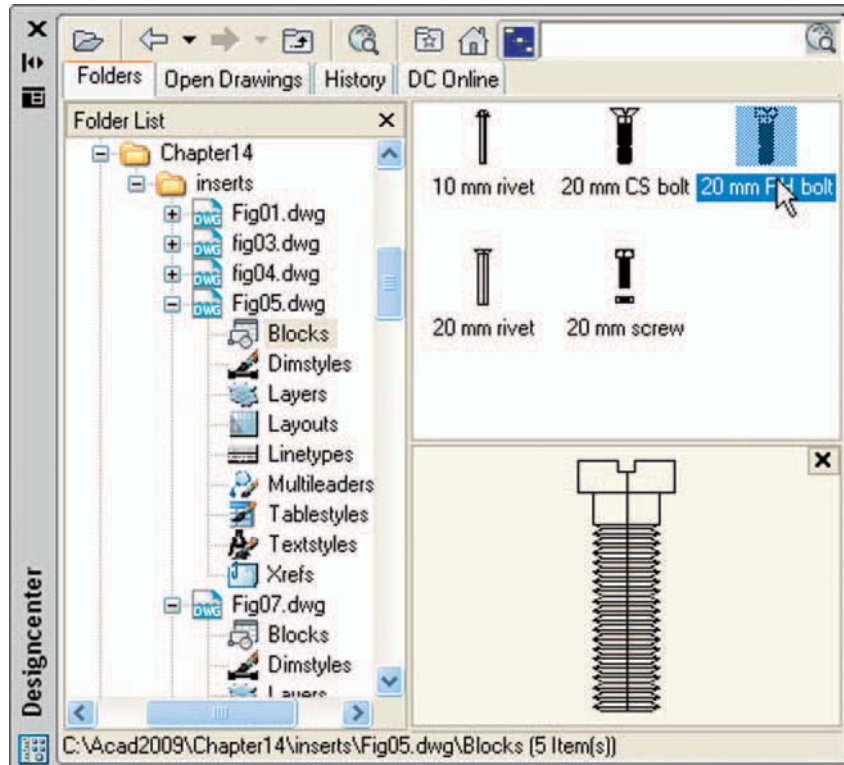

Fig. 14.6 Second example – a library of fastenings
Second example – a library of fastenings (Fig. 14.6)
2. Open the **DesignCenter**, *click* on the **Chapter 14** directory, followed by a *click* on **Fig05.dwg**. Then *click* again on **Blocks** in the content list of **Fig05.dwg**. The five 3D models of fastenings appear as icons in the right-hand side of the **DesignCenter** (Fig. 14.6).